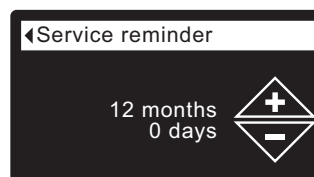

FIG. 82
7. Press the SELECT (O) button to display the Service reminder screen (See Figure 82).